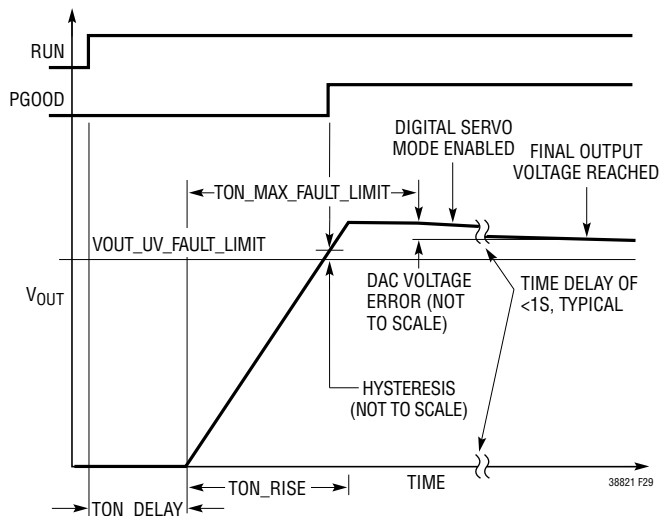
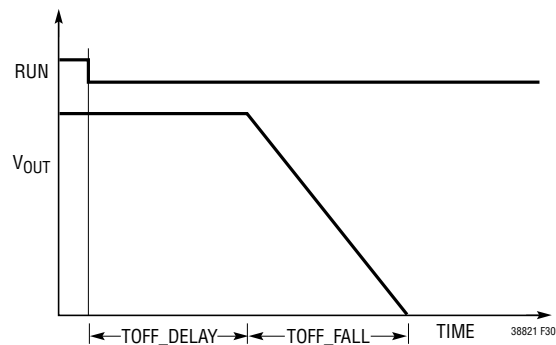
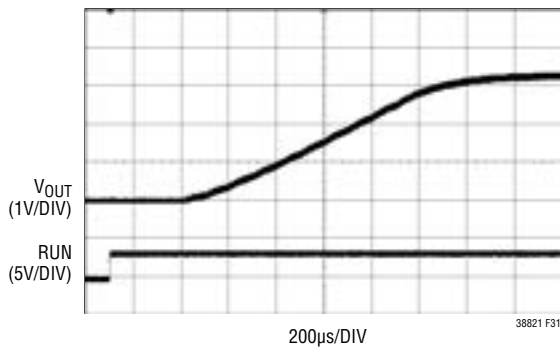

Figure 29. Time-Based V_{OUT} Turn-On
Figure 30. Time-Based V_{OUT} Turn-Off
Figure 31. Example of 1ms TON_RISE
The LTC3882-1 TON_DELAY and $TOFF_DELAY$ commands can be used in combination with the rise and fall time commands covered in the previous section to implement a wide range of versatile sequencing and ramping schemes. The key to time-based sequencing and ramping is the ability of LTC3882-1 master phases to move their outputs up and down according to PMBus command values as shown in Figure 29 and Figure 30.
As shown in Figure 29, it is important to remember that the hysteresis given in the Electrical Characteristics (EC) table applies above $V_{OUT_UV_FAULT_LIMIT}$, which specifies the UV limit when the output is falling out of regulation. For turn-on, the output must rise above this programmed limit plus the hysteresis to avoid exceeding $TON_MAX_FAULT_LIMIT$. $PGOOD$ is indicated at that point. For this reason, $V_{OUT_UV_FAULT_LIMIT}$ should be more than 27mV below the programmed output voltage in low range and more than 54mV below V_{OUT} in high range. There is a fixed delay and other timing uncertainty associated with all changes in output voltage controlled by the LTC3882-1. A nominal fixed timing delay of 270 μ s exists to process any change in output voltage, including soft start/stop, margining and general changes in $V_{OUT_COMMAND}$ value. The start of all time-based output operations occur with an uncertainty of $\pm 50\mu$ s and have a nominal step resolution of 100 μ s. This means the minimum TON_DELAY or $TOFF_DELAY$ that the LTC3882-1 can produce will range from 220 μ s to 320 μ s, not including basic oscillator tolerances. For software-based output changes (e.g., margining), this algorithmic delay begins when the STOP bit is received on the serial bus. An example of this minimum turn on/off delay and step-wise output control can be seen in Figure 31, where $TON_DELAY = 0$ s and $TON_RISE = 1$ ms.
Digital servo mode then engages after `TON_MAX_FAULT_LIMIT` has expired as shown in Figure 29, unless that limit is set to 0s (infinite). In that case, the mode is engaged as soon as the above conditions are satisfied.